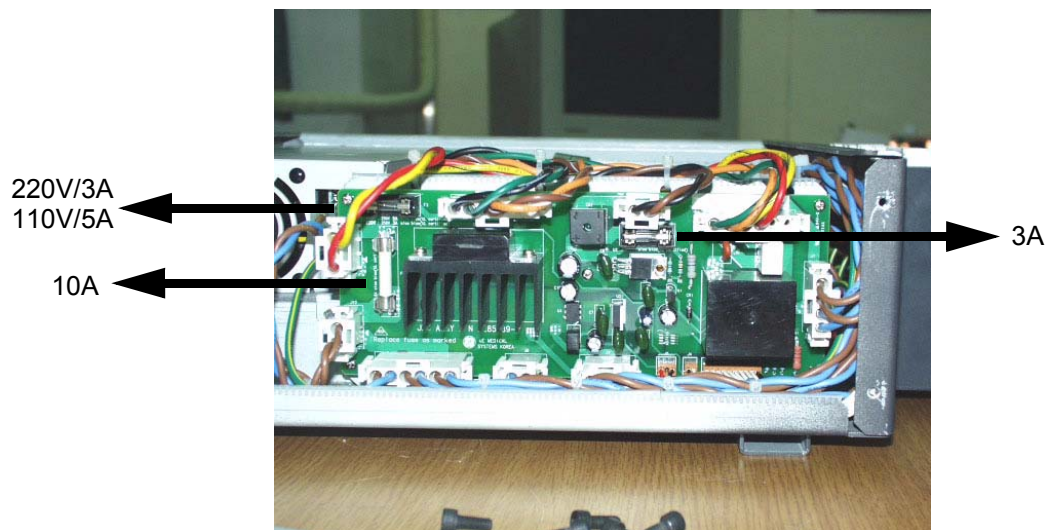

Figure 8-56 Removing the Fuse
- 1.) Unscrew four (4) screws (1-4) to remove Left side cover of AC Power assy.
- 2.) Remove the Fuses. Refer to Figure 8-56 on page 8-109 .